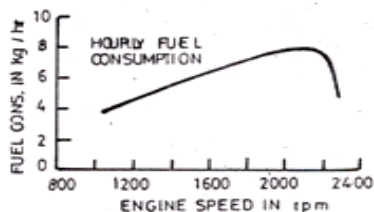

Fig. 11.4
- Specific fuel consumption as a function of engine speed (Fig. 11.4)